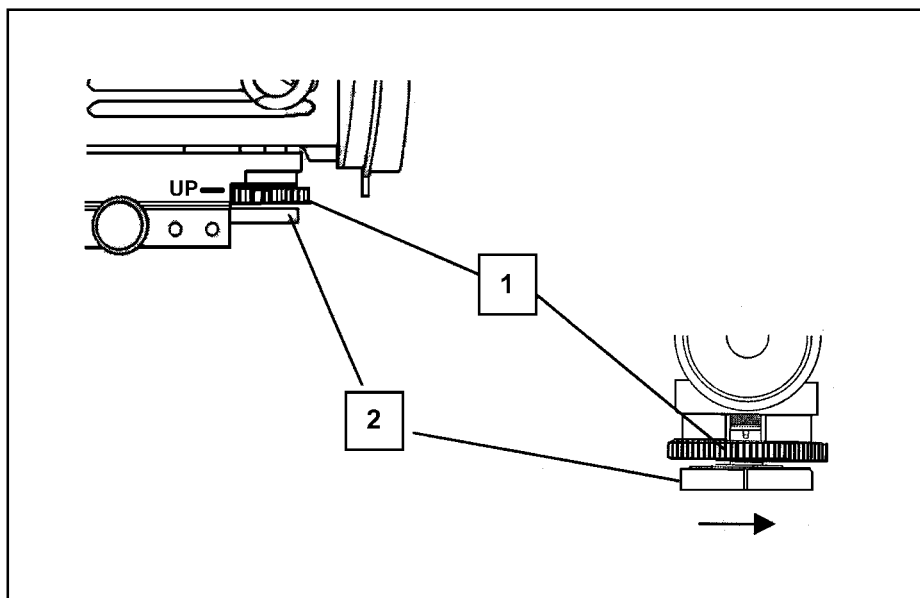

Figure G-34. Rotation of the elevation adjustment dial.
a. **Elevation Adjustment Dial.** The elevation adjustment dial is used for zeroing the telescope to the weapon. The dial can only be rotated when the silver lock (1) is moved to the UP position. Turning the elevation adjustment dial (2) counterclockwise in the direction of the arrows one click moves the point of impact up 2.5 mm at 10 meters. Turning the elevation adjustment dial (2) clockwise (opposite direction to the arrow) one click moves the point of impact down 2.5 mm at 10 meters. Ensure that the silver lock (1) is moved down to prevent any further movement of the elevation adjustment dial (Figure G-34).